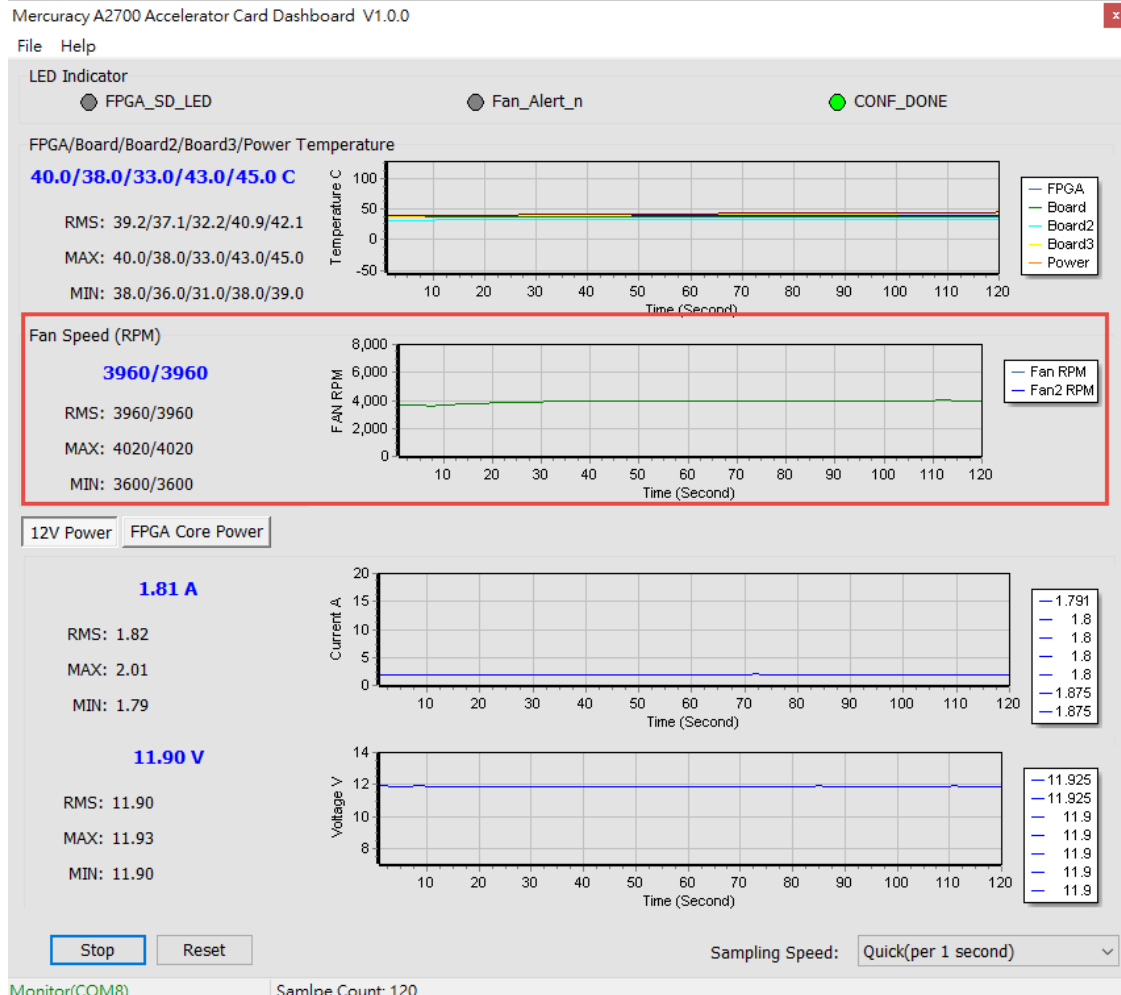

Figure 4-11 FAN RPM section
- **Fan RPM:** It displays the real-time speed of the **two** fans (Fan and Fan2 in the GUI) on the Mercury A2700 Accelerator Card, as shown in **Figure 4-11**.